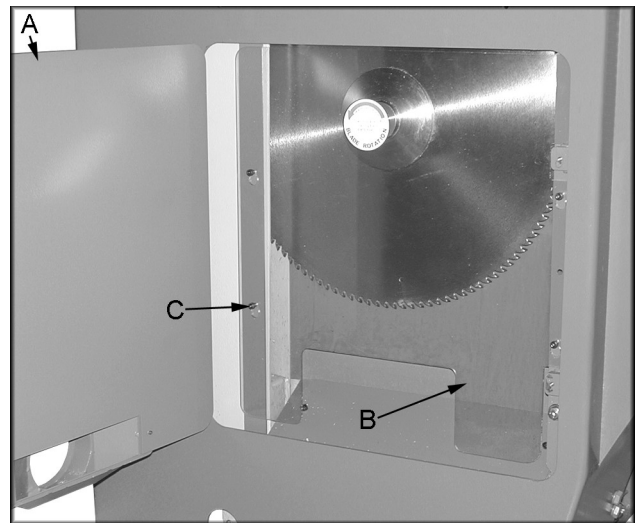

Figure 5
2. Open the saw blade access door (A, Figure 5) by unscrewing the socket head cap screws.
3. Remove the clear panel guarding the blade (B, Figure 5) by loosening the four socket head cap screws (C, Figure 5) and lifting up on the panel.